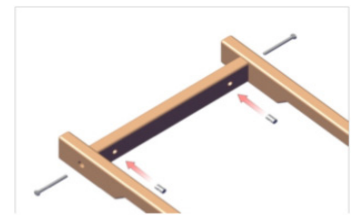
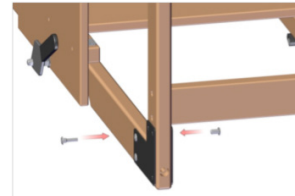
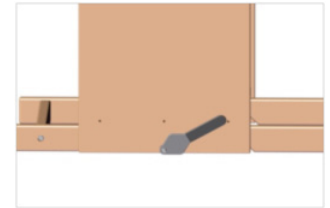

FIGURE 8
FIGURE 9
FIGURE 10
- Refer to Figure 8. Insert one Barrel Nut (I) into each hole located on the Cross Rail (E) with the slotted end facing the Upholstered Barrel Assembly. Using a Flathead Screwdriver, rotate the Barrel Nut until the slot is horizontal. Insert one 5/16" x 3-1/4" Hex Bolt with washer (J) through each rail from the outside until it engages the threads of the Barrel Nut. Thread the Hex Bolts into the Barrel Nuts, but do not fully tighten at this time.
STEP 3 – Assemble the Ladder (B) to the L-Brackets on Left and Right Rails (C, D) using 1-1/4" Binding Post Screws (male and female) (F, G).
- Orient the Ladder (B) so that the black, plastic hole plugs near the top are facing outward, away from the Upholstered Barrel Assembly.
- Refer to Figure 9. Carefully squeeze approximately one drop of Loctite into the female Binding Post Screw (G). Use caution with Loctite, it comes out of the tube quickly. Beginning at the left side of the Ladder, insert one 1-1/4" Binding Post Screw (female) (G) from the inside of the Ladder through the L-Bracket and Ladder. From the other side, insert one 1-1/4" Binding Post Screw (male) (F). Using the two 3/16" Allen (Hex) Wrenches included, thread the male and female Binding Post Screws together, but do not tighten. Repeat these steps for the remaining two holes in the L-Bracket on Left Rail (C).
- Move to the three holes in the L-Bracket on Right Rail (D) and repeat the process using the remaining three Binding Post Screws (F, G). Using the two 3/16" Allen (Hex) Wrenches, fully tighten the three sets of Binding Post Screws that attach the Ladder to the L-Brackets on each side.
STEP 4 – Tighten all Fasteners and Insert 3/4" Plastic Hole Plugs (K)
- Using a Socket Wrench with 1/2" Socket, firmly tighten both 5/16" x 3-1/4" Hex Bolts from Step 2. Insert one 3/4" Plastic Hole Plug (K) into each Rail.
- Using the two included 3/16" Allen (Hex) Wrenches, verify that all six (6) sets of Binding Post Screws (F, G) from Step 3 are firmly tightened.
- Test the function of the sliding mechanism by unlocking the Lever-Lock on each side of the Upholstered Barrel. Figures 10 and 11 show the Lever-Lock in two possible unlocked positions. After placing the two Lever-Locks in an unlocked position, push the Upholstered Barrel Assembly back and forth along the rails. The Upholstered Barrel Assembly should slide smoothly with minimal resistance.